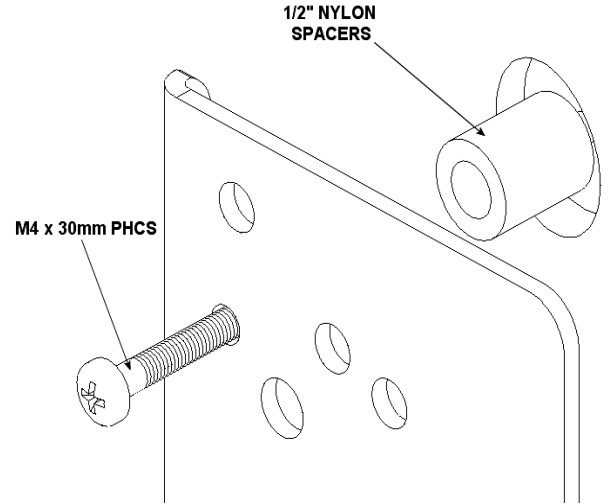
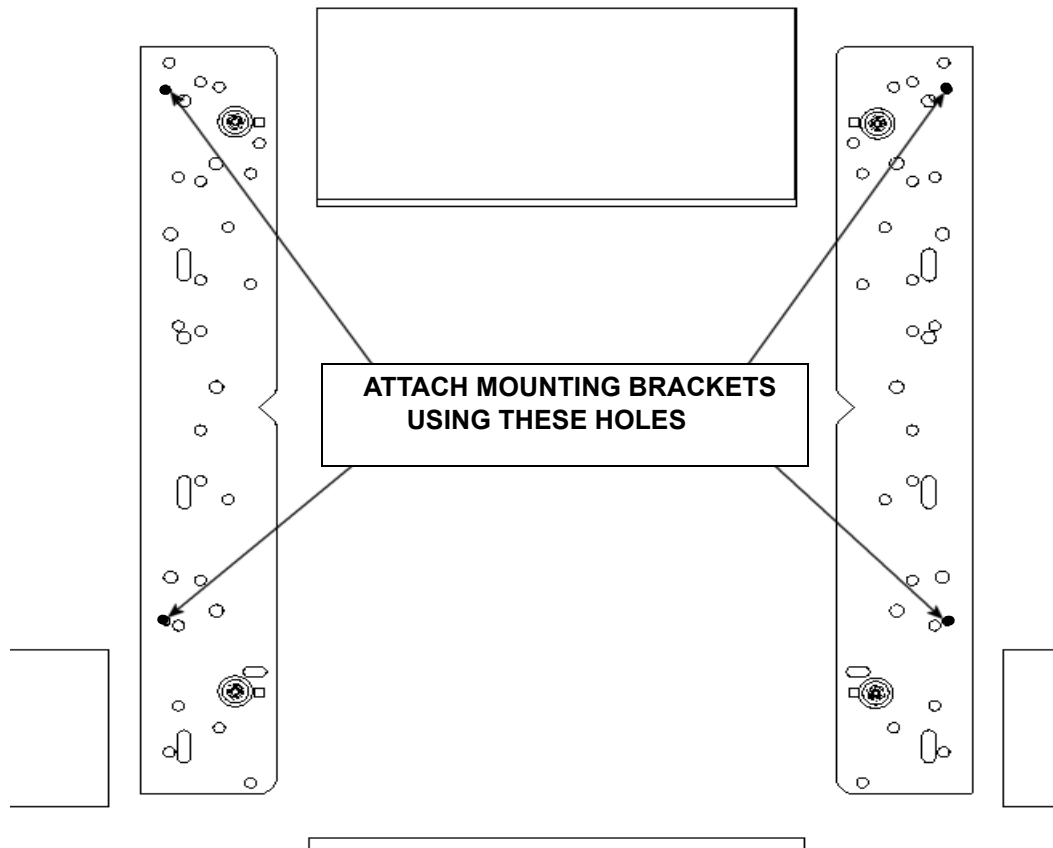

Figure 9. Spacer Installation for Group 2
Figure 10. Bracket Attachment for Group 2
3. Place the Nylon spacers over the four mounting holes on your Large Flat Panel display (see Figure 9).
4. Place the interface brackets over the Nylon spacers (see Figure 9 and Figure 10).
6. Using the hardware in the parts bag labeled C, attach the interface bracket to the display using the holes that line up with your Large Flat Panel display mounting holes (see Figure 9 and Figure 10). Do not overtighten the mounting screws.